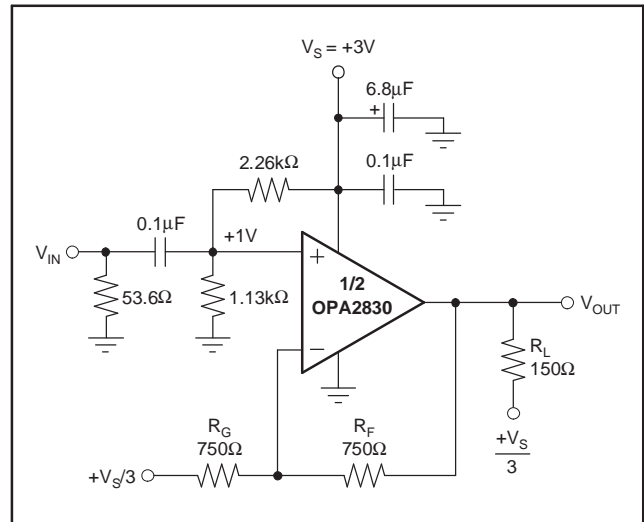
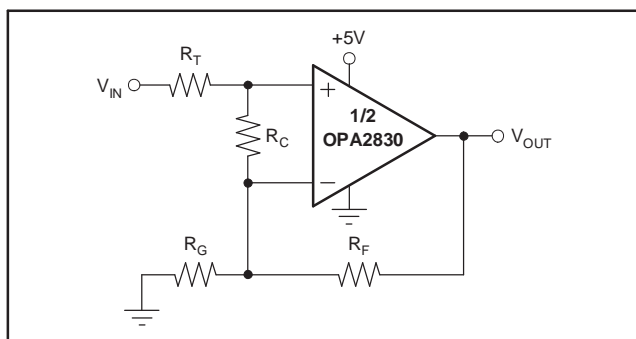

Figure 71. AC-Coupled, G = +2, +3V Single-Supply Specification and Test Circuit
Figure 77. Compensated Noninverting Amplifier
At $T_A = +25^\circ\text{C}$, $G = +2V/V$, and $R_L = 150\Omega$ to $V_S/3$, unless otherwise noted (see Figure 71).
Figure 71 shows the AC-coupled, gain of +2 configuration used for the +3V Specifications and Typical Characteristic Curves. Voltage swings reported in the Electrical Characteristics are taken directly at the input and output pins. For the circuit of Figure 71, the total effective load on the output at
Figure 77 shows a noninverting amplifier that reduces peaking at low gains. The resistor R_C compensates the OPA2830 to have higher Noise Gain (NG), which reduces the AC response peaking (typically 4dB at $G = +1$ without R_C) without changing the DC gain. V_{IN} needs to be a low impedance source, such as an op amp.
Frequency response in a gain of +2 may be modified to achieve exceptional flatness simply by increasing the noise gain to 3. One way to do this, without affecting the +2 signal gain, is to add a 2.55k Ω resistor across the two inputs, as shown in Figure 77. A similar technique may be used to reduce peaking in unity-gain (voltage follower) applications. For example, by using a 750 Ω feedback resistor along with a 750 Ω resistor across the two op amp inputs, the voltage follower response will be similar to the gain of +2 response of Figure 71. Further reducing the value of the resistor across the op amp inputs will further dampen the frequency response due to increased noise gain. The OPA2830 exhibits minimal bandwidth reduction going to single-supply (+5V) operation as compared with $\pm 5V$. This minimal reduction is because the internal bias control circuitry retains nearly constant quiescent current as the total supply voltage between the supply pins is changed.
The criterion for setting this R_S resistor is a maximum bandwidth, flat frequency response at the load. For a gain of +2, the frequency response at the output pin is already slightly peaked without the capacitive load, requiring relatively high values of R_S to flatten the response at the load. Increasing the noise gain will also reduce the peaking (see Figure 77).